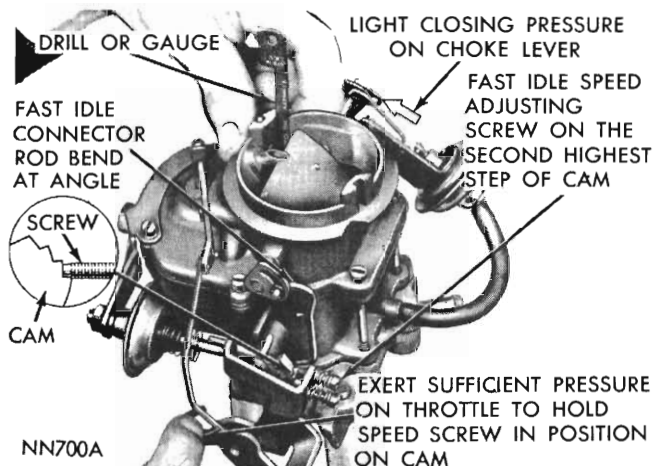

Fig. 12 - Fast idle cam position adjustment (Typical)
(1) With the fast idle speed adjusting screw contacting the 2nd step on the fast idle cam shown in (*Fig. 12*), move the choke valve toward the closed position with light pressure. Insert a No. 41 drill (.095") or 3/32" gauge between the choke valve and the wall of the air horn.
(2) An adjustment will be necessary if a slight drag is not obtained as the drill or gauge is being removed.
(3) If an adjustment is necessary, bend fast idle connector rod at angle, using Tool E14C10, until correct valve opening has been obtained. Refer to *Fig. 12*.